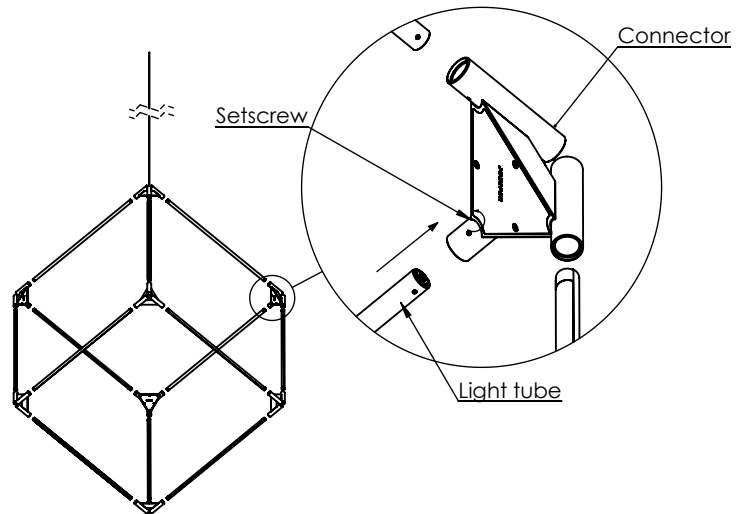

FIGURE 1
NOTE: Figure 1 shows CUBE as an example. Please install the correct number of light tubes according to your fixture's configuration. The instructions below are same for all SOLIDS.
2. Insert Light tubes into the connectors as shown in FIGURE 1.